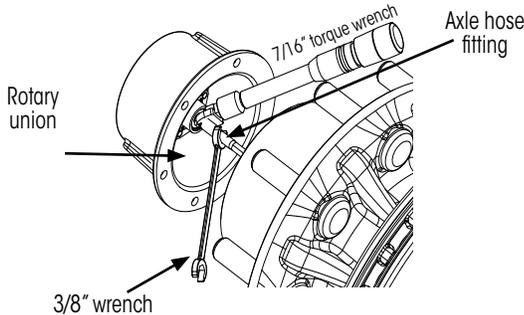

Figure 3: Hubcap to axle hose connection
1. Draw just enough axle hose out from center of spindle to attach axle hose fitting to the rotary union inside the hubcap, Figure 3.
4. Using a 3/8" wrench to prevent rotation of the axle hose fitting (Figure 3), tighten the rotary union shaft to 50±5 in-lbs (5.7±0.6 Nm) of torque.